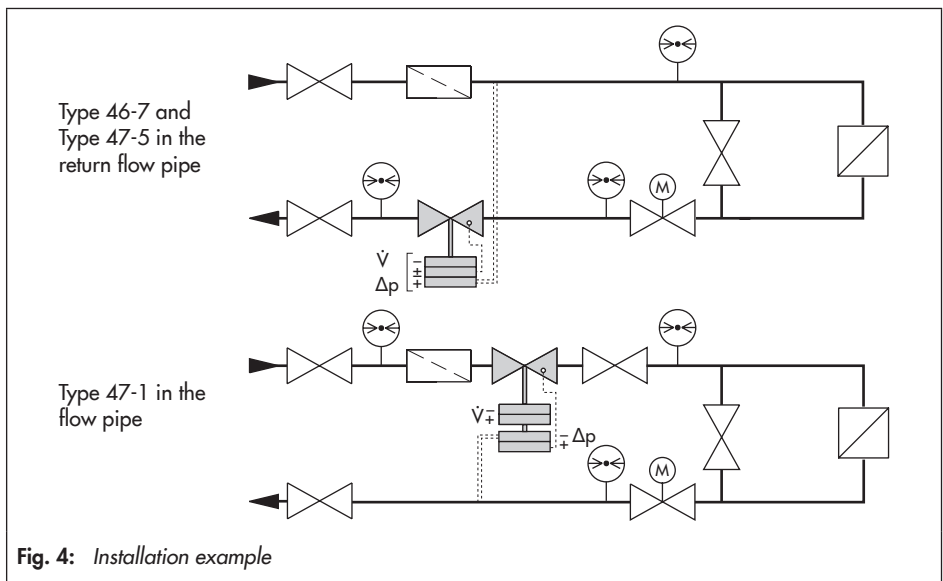

Fig. 4: Installation example
Install a hand-operated shut-off valve both upstream of the strainer and at the outlet of the return flow pipe (see Fig. 4). This allows the plant to be shut down for cleaning and maintenance, and when the plant is not used for longer periods of time.
Install a pressure gauge at a suitable point to monitor the pressures prevailing in the plant (see Fig. 4).
- Refer to installation schematics (Fig. 4) for line routing.
- ➔ Make sure that the restriction (1.2) is open while filling the plant. Turn the set point screw (17) counterclockwise (⤵) as far as it will go.